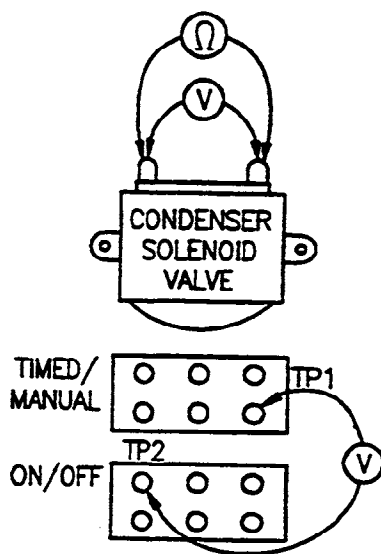

Figure 5-12. Condenser Solenoid Valve
5. Refer to Figure 5-12, and connect the voltmeter leads to test point 1 and test point 2. With these connections, check for 0 VAC across the drain solenoid.